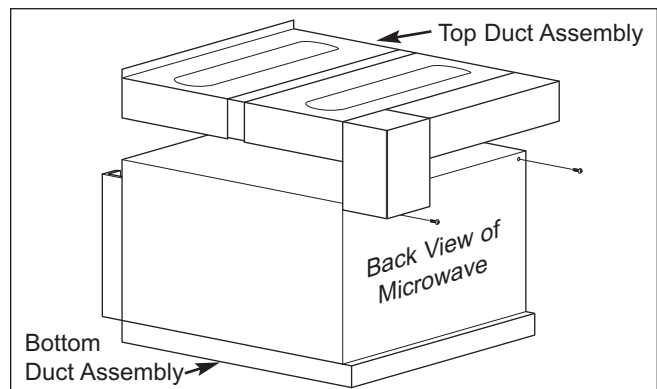

Figure 3. Attaching Top Duct to Microwave
- C. Remove existing screws, one from upper right and one from left rear of oven (See Figure 3).
- D. Place top duct assembly on microwave and re-insert screws (See Figure 3).